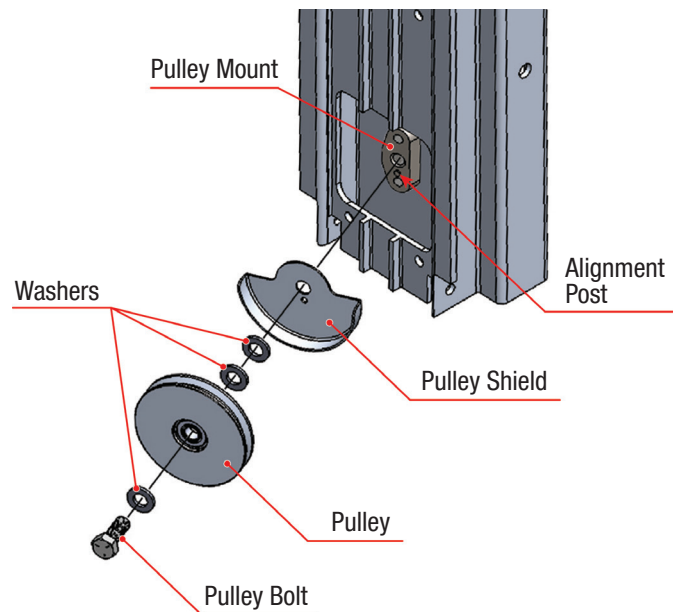

Figure 4-25: Pulley Assembly Parts and Installation Order
3. Lift the pulley up and remove the cable, then remove and discard the pulley, washers, and pulley shield. **IMPORTANT:** Be sure and note the placement of the three washers. Re-install washers in the same order (see Figure 4-25).
4. For the new pulley assembly, apply a dab of blue Loctite to the pulley bolt threads and loosely attach the new pulley assembly in place. **NOTE:** There is a small post on the pulley mount. Align that post with the mounting hole in the pulley shield (see Figure 4-25).